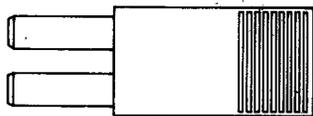

Fig. 19—443A Plug
2.17 **443A:** The 443A (Fig. 19) consists of a pair of flexible, coaxial plug fingers mounted in a metal shell. The plug fingers are connected to the inner and outer contacts, respectively, of the other finger and are not arranged for cord connection. This plug mates with two 560A jacks and is used in the L4 Mastergroup Multiplex.